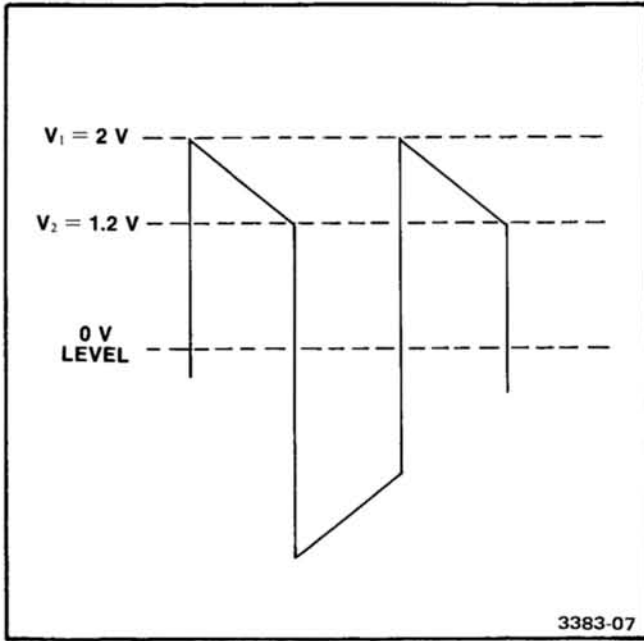

Fig. 2-6. Typical low frequency response curve.
2. Slowly reduce the square-wave frequency and adjust the oscilloscope (amplifier) controls to display a signal similar to Fig. 2-6.
For example; if the applied frequency, F_a , is 10 Hz and the amplitude values shown in Fig. 2-6 are used, the lower cut-off frequency is calculated to be about 1.6 Hz.